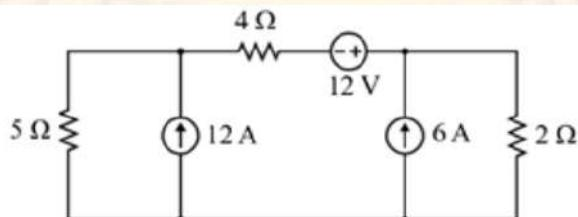

Figure 5
14. For the circuit given in Figure 5, apply the superposition theorem to find the power dissipated in the 5Ω .